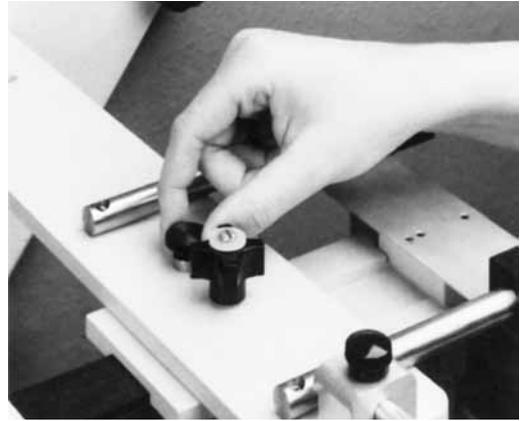

Figure 10
1. Remove the ear post rotation lock (Figure 10) and rotate the ear post assembly until it is parallel to the support bar. Reinsert the ear post rotation lock.